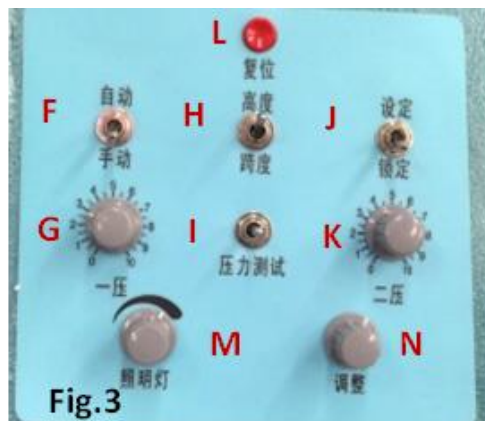

Fig.3
- (1) Check all switches are in correct position as shown in Figure 3.
- (2) Power up the system by pushing POWER button on the left side of the machine. The LCD light and halogen illumination lamp will be on.
- (3) Mount the bonding package on the work holder with double side tape. The die must be rigidly mounted to the package so that the ultrasonic energy from the bonding wedge can be transmitted to the die efficiently.
- (4) Place a mounted dummy package directly underneath the wedge. At this moment, the binding head will be much higher than your package.
- (5) Press Bonding button, the wedge will move down, touch the package and retract about 1mm
- (6) Switch SET/LOCK switch to SET position.
- (7) Press and hold the Bonding button, adjust the tip height by slowly turn the adjustment knob to appropriate position.
- (8) Release the Bonding button to finish the first bond, adjust the height by the adjustment knob and slightly modify the position by moving the stage with manipulator, repeat step (8) to finish the second bond.
- (9) Switch SET/LOCK switch back to LOCK position.